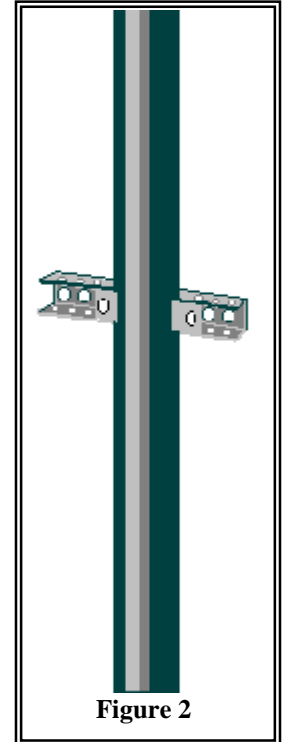

Figure 2
2. Attach the short, end rail with holes on three sides to the back of the CWT guide rail using two beam clamps, two ½" x 1½" bolts and two spring nuts (Figure 2). Repeat steps 1 and 2 for the other CWT guide rail.